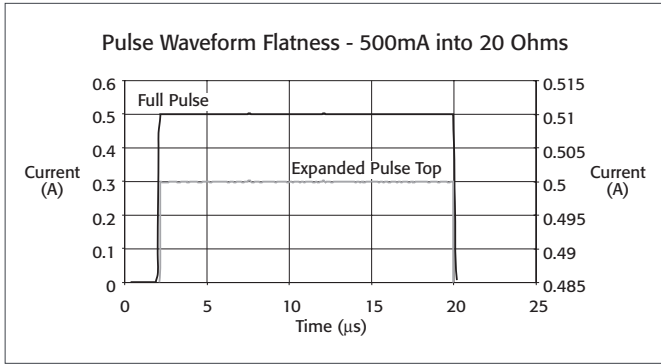

FIGURE 1
FIGURE 1. This schematic reflects the current testing practices of major laser diode manufacturers. Note that the use of discrete test components increases the integration and programming effort, while severely limiting the flexibility of the test system.
The mainframe and remote test head architecture of the Model 2520 is designed to enhance pulsed measurement accuracy, even at the sub-microsecond level. The remote test head ensures the measurement circuitry is located near the DUT, mounted on the fixture, minimizing cable effects. As the schematic in **Figure 1** shows, traditional semi-custom systems typically employed in the past require significant integration. The architecture of the Model 2520 (**Figure 2**) offers a far more compact and ready-to-use solution.
- Figures 1 and 2** are typical pulse outputs into resistive loads.
Figure 1. The capabilities of the Models 2510 and 2510-AT are intended to complement those of other Keithley instruments often used in laser diode module LIV testing, including the Model 2400 and 2420 SourceMeter SMU instruments, the Model 2502 Dual Photodiode Meter, and the Model 2500INT Integrating Sphere.